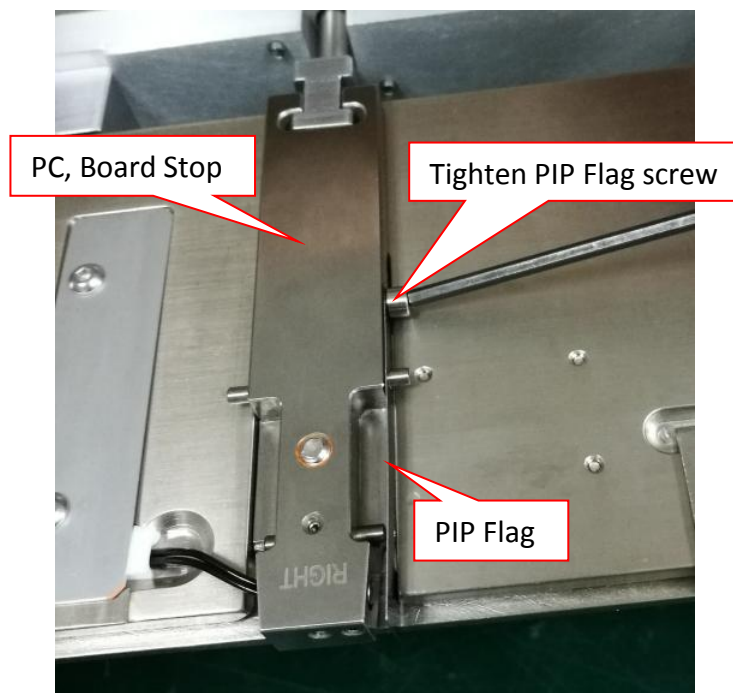

Figure 10 PIP Flag Assembly
6. Assemble PIP Flag into PIP Board Stop. Tighten PIP Flag Screw as shown in Figure 10.